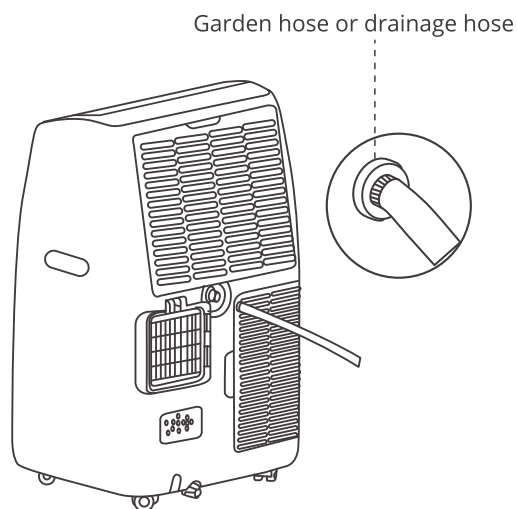

Fig.19
- Connect the drain hose (1/2" or 12.7mm, maybe not supplied). (fig.19)